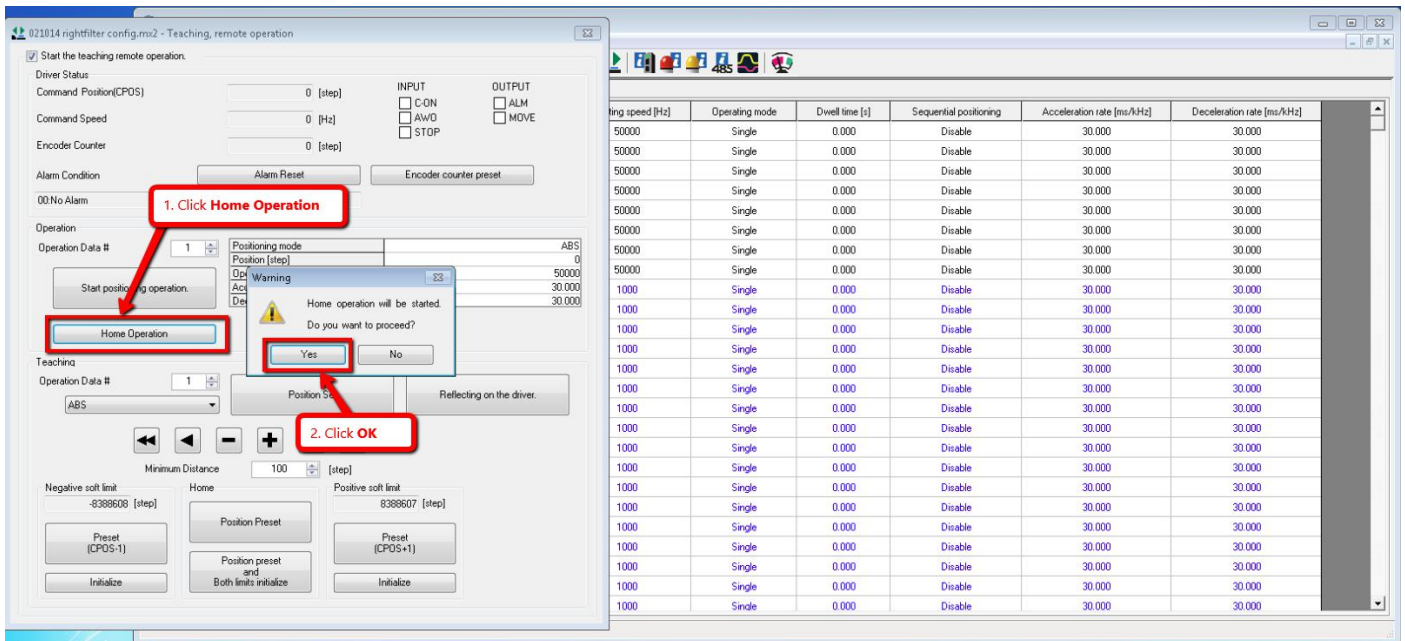

Figure 20 Homing process
17. Press the Home Operation button and press OK as shown in the Figure 20.